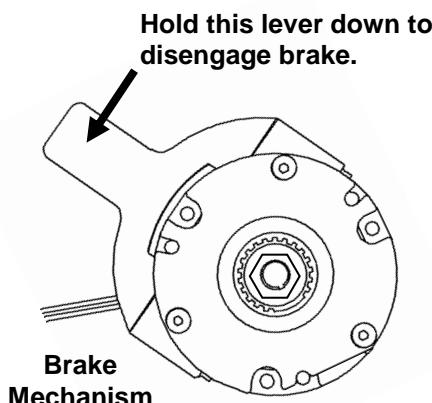

Figure 4.2-14
1. Disengage the brake (see Figure 4.2-14), and manually crank the table to just before top dead center. There should be a gap of approximately $\frac{1}{2}$ inch between the table drive eccentric's white nylon roller and the rear edge of the cam link as viewed from above.